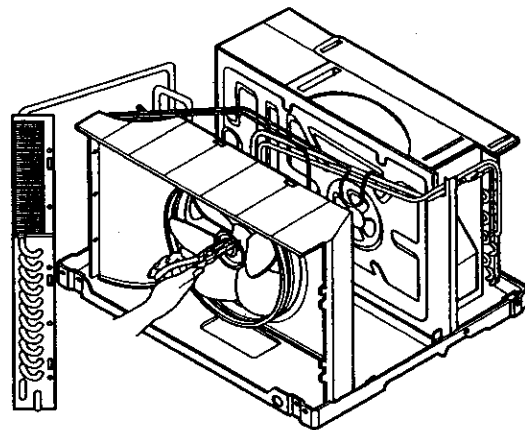

Figure 46
6. Remove the fan. (See Figure 46)